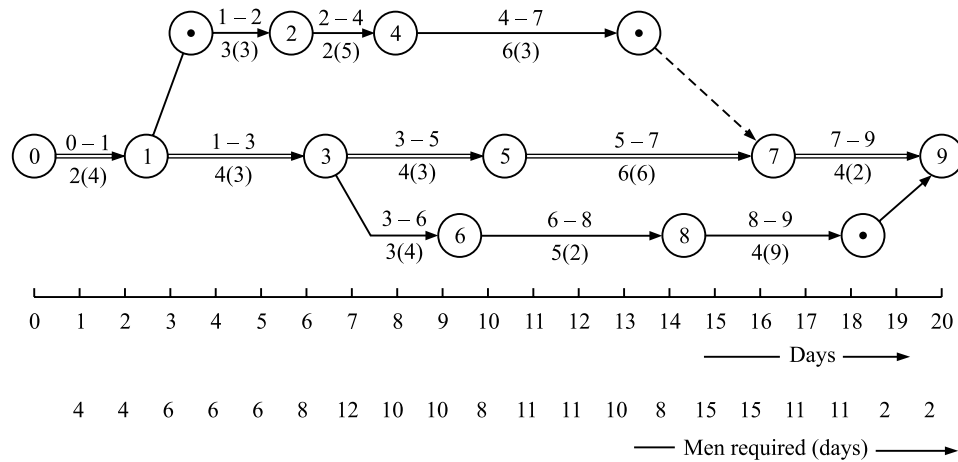
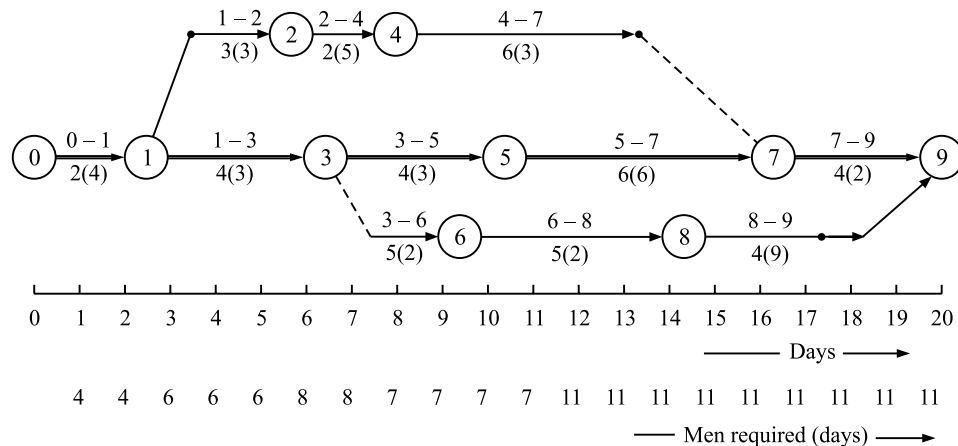

Fig. 13.35
Fig. 13.36
In order to exhibit activities on a time scale so that ranges of time allowable for various activities may be known, a time scaled version of the given network (also squared network) has been drawn. For this, first of all critical path is drawn along straight line and non-critical activities are added with it as shown in Fig. 13.35. Here, it is assumed that the various activities may be started as soon as possible, at their *earliest start* (E) times.
The performance of some of the non-critical activities is shifted so that requirement of manpower may be rearranged. Because these non-critical activities have slack. To reduce the manpower requirements in the earlier weeks and to raise it in the last weeks, we may postpone the beginning of activity 3 – 6, 6 – 8 and 8 – 9 by two weeks each to start all at the beginning of 11th and 16th day, respectively and that of activity 4 – 7 by 3 days to start at the 10th day. The result of such rearrangement is shown in Fig. 13.36.
In Fig. 13.36, it may be observed that the requirement is less uneven in comparison with the previous situation and now 11 men are required compared to 15 men. Figures 13.35 and 13.36 indicate that there is no need of employing 11 men at a time. Men may be employed as per need.